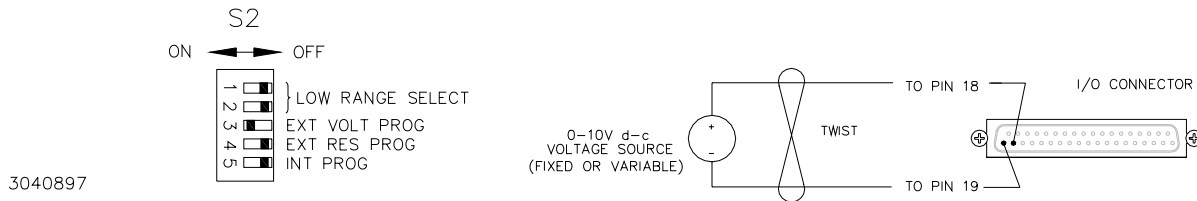

FIGURE 3-2. EXTERNAL VOLTAGE PROGRAMMING OF OUTPUT VOLTAGE
- c **External Voltage Programming:** When enabled via S2-3, this mode provides for output voltage adjustment via an external voltage source (0-10V) connected between pins 18 and 19 (VPROG, -S) of the I/O connector (see Figure 3-2). This technique is useful when implementing digital control of the power supply output voltage via a D/A converter; Kepeco's SN/SNR 488 programmers are ideally suited to these requirements